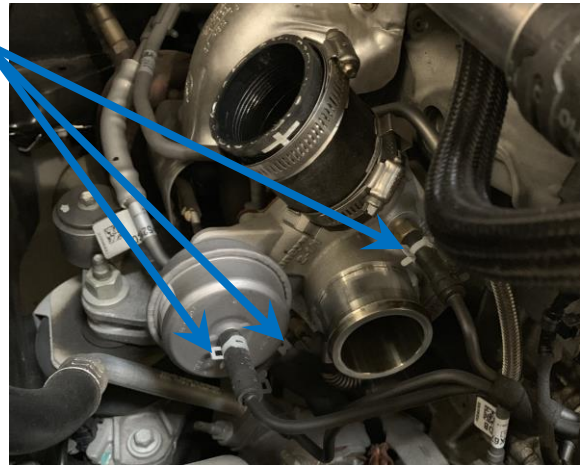

Fig. 8
1. Using nose pliers, squeeze metal clip and pull the rubber lines away from the fittings. See Fig. 8